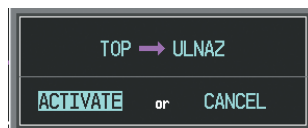

Figure 5-114 Confirm Active Leg
- c) Press the **ACT LEG** Softkey. The confirmation window is now displayed as in Figure 5-114. Note the TOP to ULNAZ leg is actually part of V4.